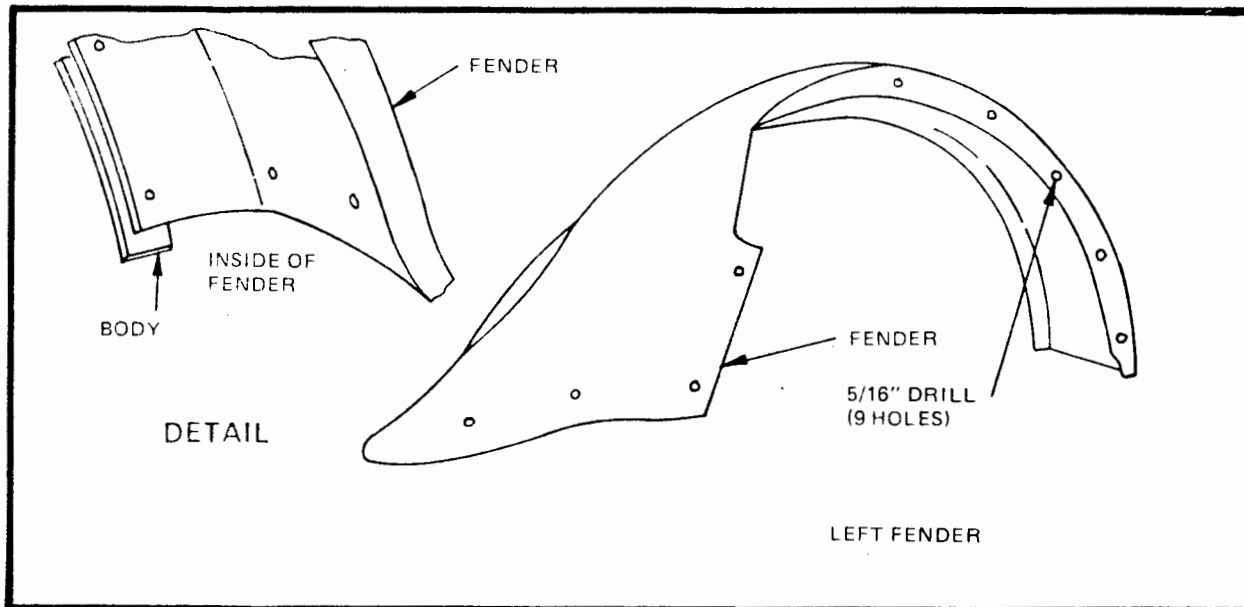

Figure 51
- Drill as per diagram (5/16"). (Figure 51) Align front of fender with rear of running board. The rest of the fender will fit into place, indexing with the rear body. Clamp to body and running board. Do not bolt.